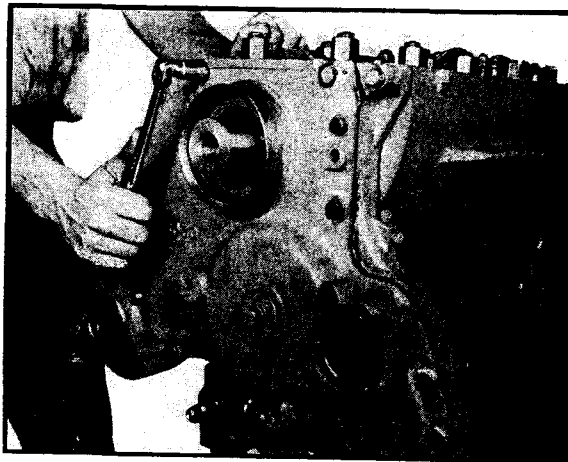

Fig. 12-36. Installing gear case cover
3. Secure the cover to the block with lock-washers and capscrews. Fig. 12-36.